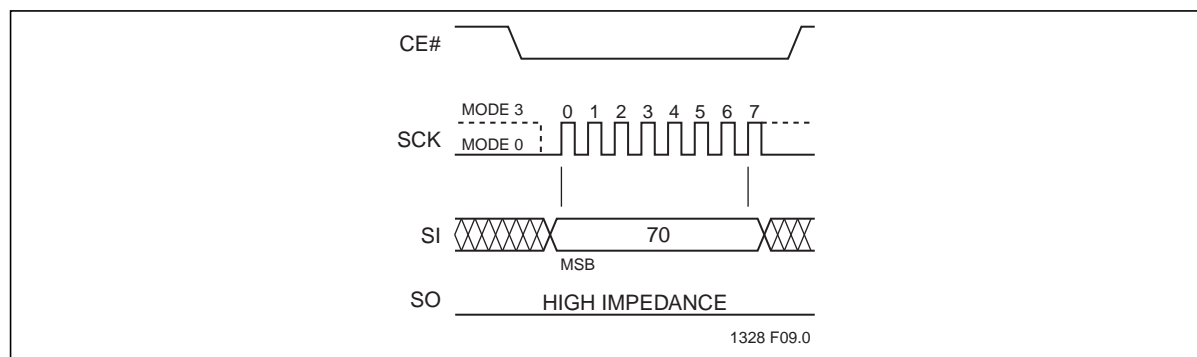

Figure 9: Enable SO as Hardware RY/BY# during AAI Programming
The Hardware End-of-Write detection method eliminates the overhead of polling the Busy bit in the Software Status Register during an AAI Word program operation. The 8-bit command, 70H, configures the Serial Output (SO) pin to indicate Flash Busy status during AAI Word programming, as shown in Figure 9. The 8-bit command, 70H, must be executed prior to executing an AAI Word-Program instruction. Once an internal programming operation begins, asserting CE# will immediately drive the status of the internal flash status on the SO pin. A '0' indicates the device is busy and a '1' indicates the device is ready for the next instruction. De-asserting CE# will return the SO pin to tri-state.